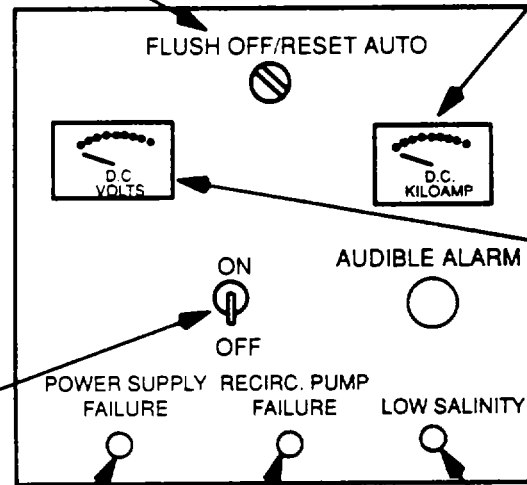

Figure 3-5. Chlorination Unit Control Cabinet Controls and Indicators
- d. Turn alarm ON/OFF switch on control cabinet (Figure 3-5) ON.
- j. Turn function switch on control cabinet (Figure 3-5) to AUTO.
- (3) Chlorination unit control cabinet (Figure 3-5)
- (1) Press red flashing key on keyboard to change ALARMS display page back to CHLORINE STATUS or SYSTEMS STATUS display pages.
- (2) Press ACK key on keyboard to stop alarms, to automatically change red flashing key to white, and to change flashing display on video monitor screen display page to double intensity.
- b. Turn function switch on control cabinet (Figure 3-5) to OFF/RESET. This opens level sensors in holding tank and solenoid valves which stops flow of water to brine tank.
- c. Turn alarm ON/OFF switch on control cabinet (Figure 3-5) to OFF.